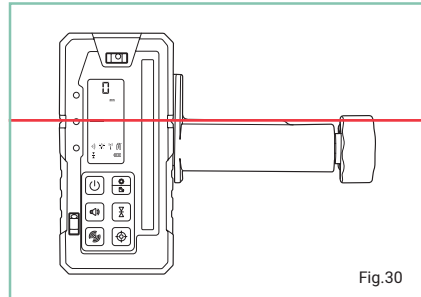

Fig.30
- When the level position has been located, the speaker will emit a constant beep and show the centre alignment line on the LCD screen (Fig.30).